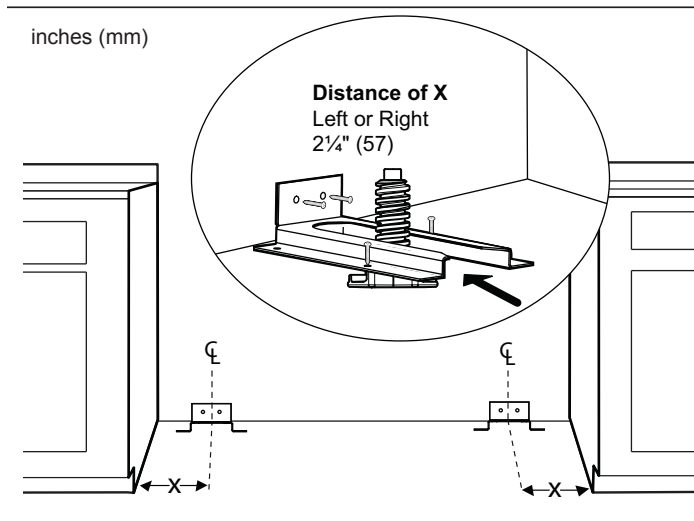

Figure 7: Placement of Anti-Tip Bracket
- Place bracket on floor in a position shown in *Figure 7*.
- Secure to floor and wall stud using the (4) 1½" (38 mm) Phillips head screws provided.
- Later, when the unit is installed, the adjustable leg will slide under the bracket, as shown in *Figure 7*.